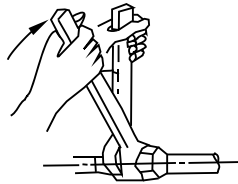

Fig. 8-4
- Be sure to use both a spanner and torque wrench together when connecting or disconnecting pipes to /from the unit. (Fig. 8-4)